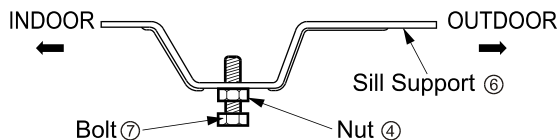

Fig. 3
3. Remove the White Styrofoam shipping blocks from the compressor. (Fig.3)
3. Loosely assemble the Sill Support® using the parts. (Fig. 3)